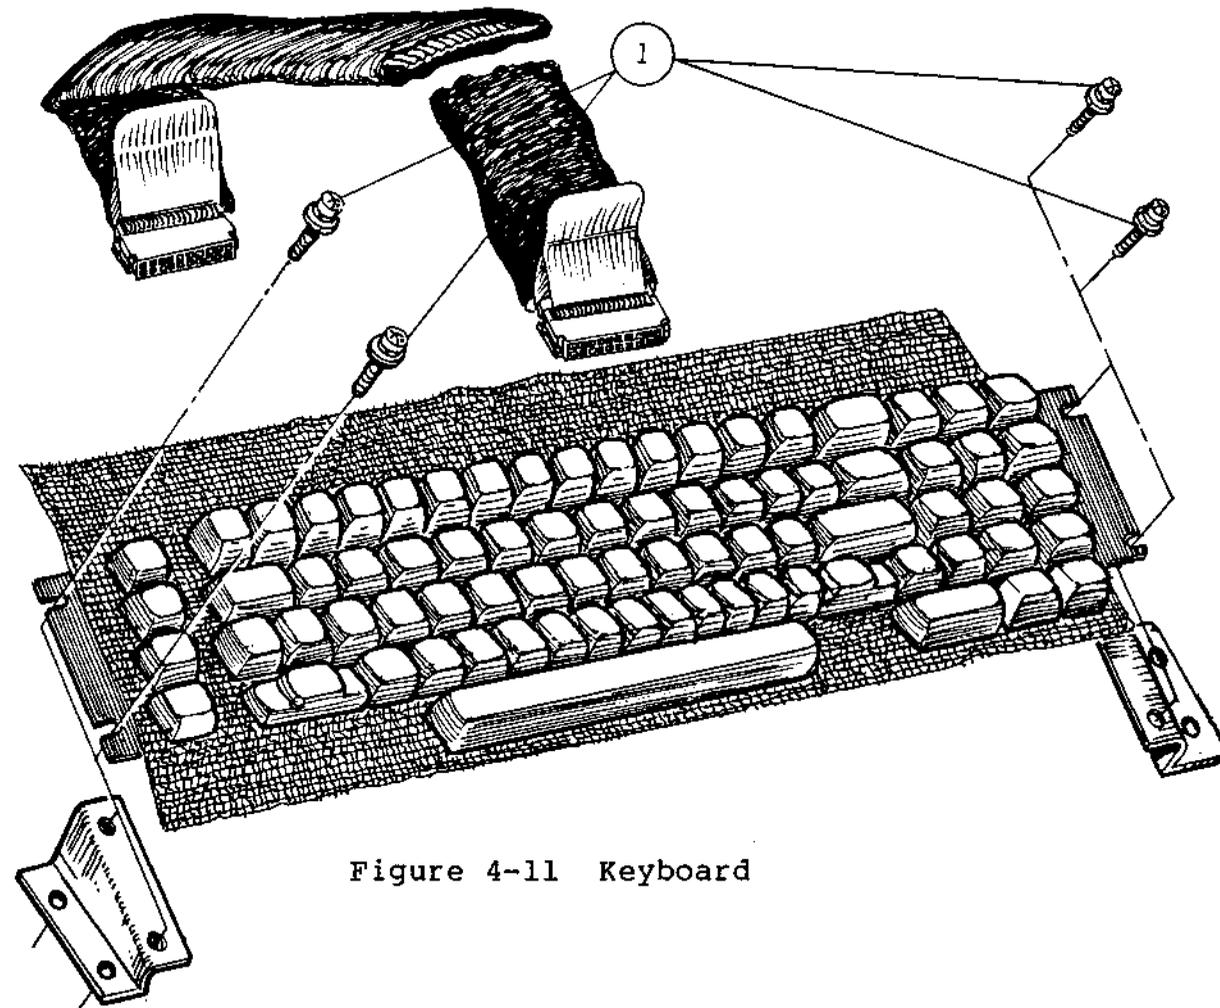

Figure 4-11 Keyboard
#### 4.6.1 Disassembly (Figure 4-11)
- d. Remove four screws (1) securing keyboard to the base and remove the keyboard (refer to Figure 4-11).
Reverse the disassembly procedures (Figure 4-11) described in Section 4.6.1.